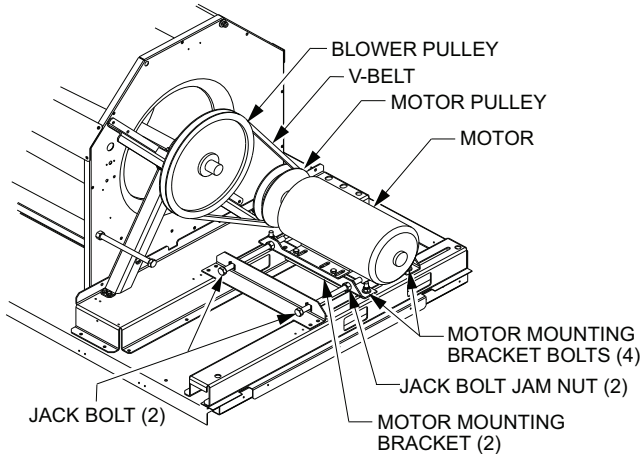

Fig. 9 — Replacing Belt Drive Motor
21. Set the new motor and motor mounting bracket back onto the unit. See Fig. 9.